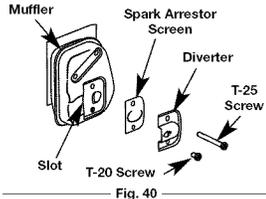

Fig. 40
2. With a flat blade screwdriver or Torx T-20 bit and a T-25 bit, remove the screws attaching the spark arrestor cover to the muffler (Fig. 40).